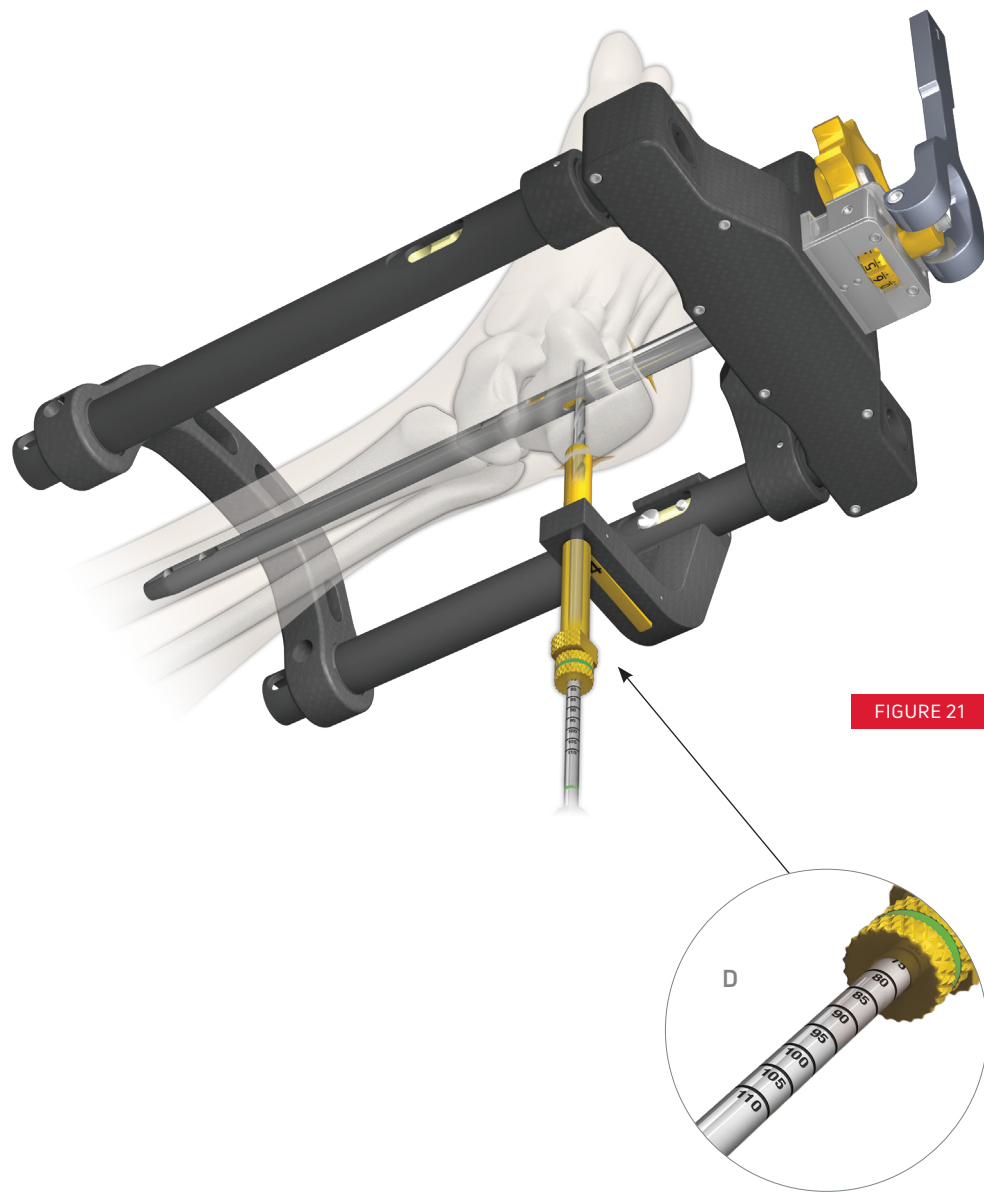

FIGURE 21
Insert the 4 mm Drill into the Drill Guide and drill to the desired depth (typically just proximal to the C-C joint) (FIGURE 21). Read the laser markings on the Drill relative to the back of the Drill Guide to determine the appropriate screw length (D).